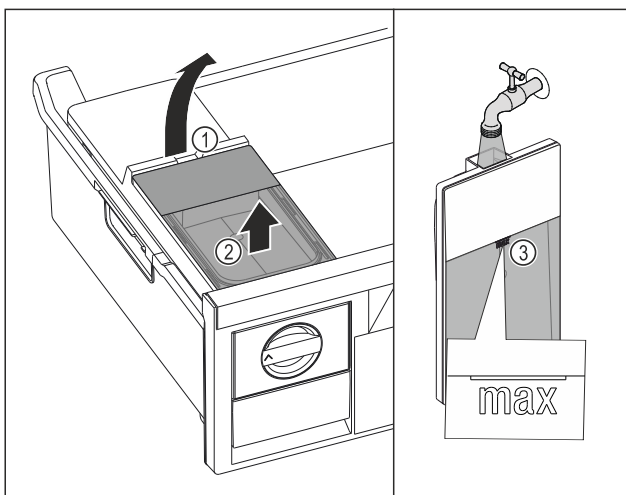

Fig. 129
- Lift the water tank at the recess Fig. 129 (1).
- Remove the water tank by lifting it upwards. Fig. 129 (2)
- Fill the water tank with drinking water up to the mark Fig. 129 (3).